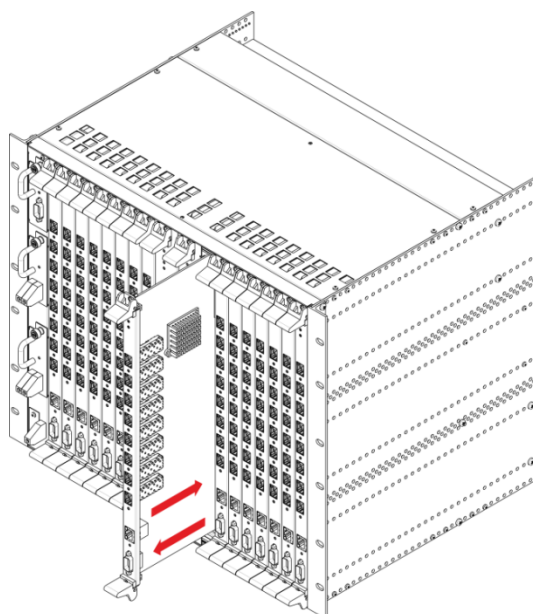

Fig. 44—Installing board into MA4000-PX
Step 5. Remove the screws located on the module ejectors. Push the bottom ejector down and pull the top ejector up. Pull out the module and remove it from the crate, Fig. 44.
Step 6. Install a new PP4X module in reversed order, Fig. 44.
**After all modules has been installed into the rack, secure the connection with screws, see Fig. 44.**
Step 3. Remove the screws located on the module ejectors. Push the bottom ejector down and pull the top ejector up. Pull out the module and remove it from the crate, Fig. 44.
Step 4. Install a new PLC8 module in reversed order, Fig. 44.
**To prevent the board damage, install/remove boards to/from the crate carefully, do not apply any force. Do not allow the components of the board being installed to touch the board installed next to it. If the board meets resistance while sliding through the guides, remove the board and try to install it again. After all modules has been installed into the rack, secure the connection with screws, see Fig. 44.**